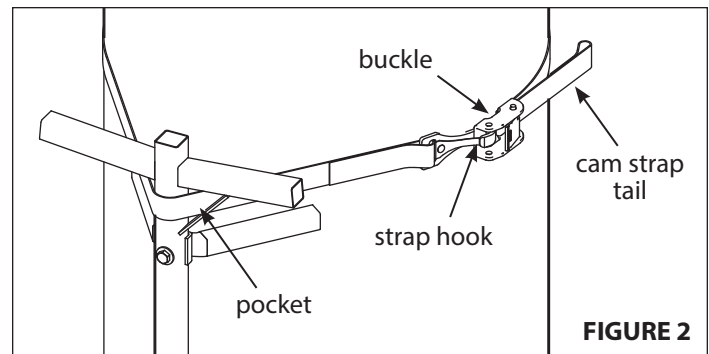

FIGURE 2
1. Stand the assembled Connect-N-Climb up against a selected straight tree on dry, level ground. Feed the strap assembly through the "pocket" of bottom stick section. **SEE FIGURE 2**
2. Wrap entire cam strap assembly (48748) around tree. Connect snap hook to the buckle. Pull tail of cam strap tight so that the section is snugly secured to the tree. **SEE FIGURES 2 AND 3.** Be certain (2) contact points of tree hugger are contacting tree.